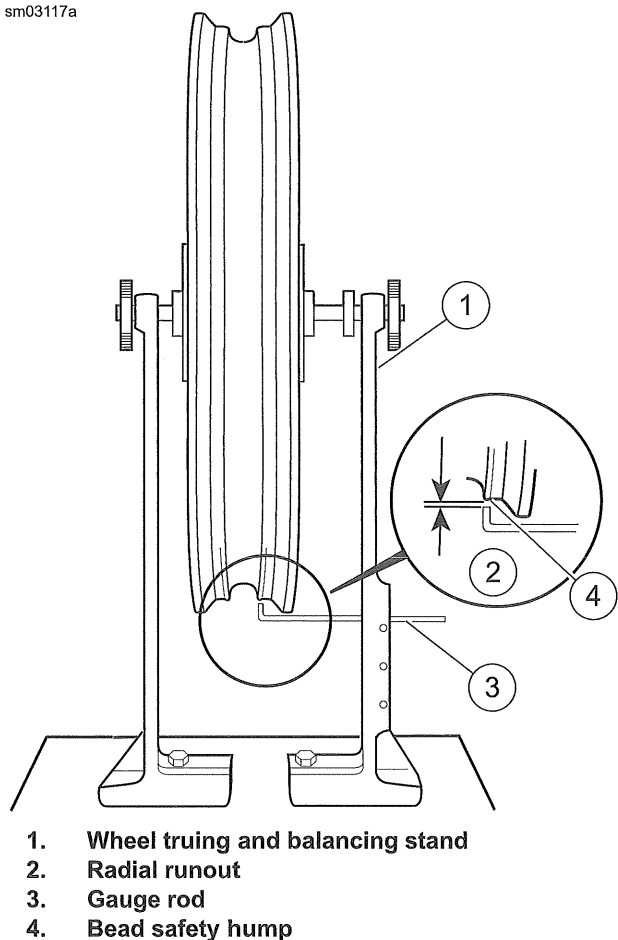

Figure 3-19. Checking Radial Runout
1. See Figure 3-19. Mount wheel in WHEEL TRUING STAND (PART NUMBER: HD-99500-80).
2. Adjust the gauge rod (3) near to the tire bead safety hump (4). If using a dial indicator, place the tip on the safety bead hump.